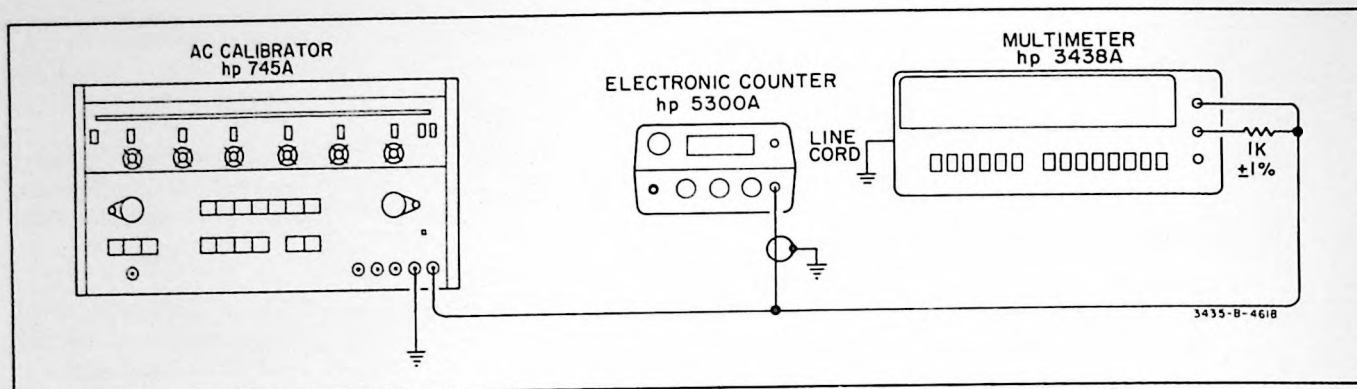

Figure 4-8. AC Common-Mode Rejection Test.
d. Connect the AC Calibrator between the Multimeter V - Ω terminal (with the 1 K resistor still in place) and power line ground as shown in Figure 4-8.